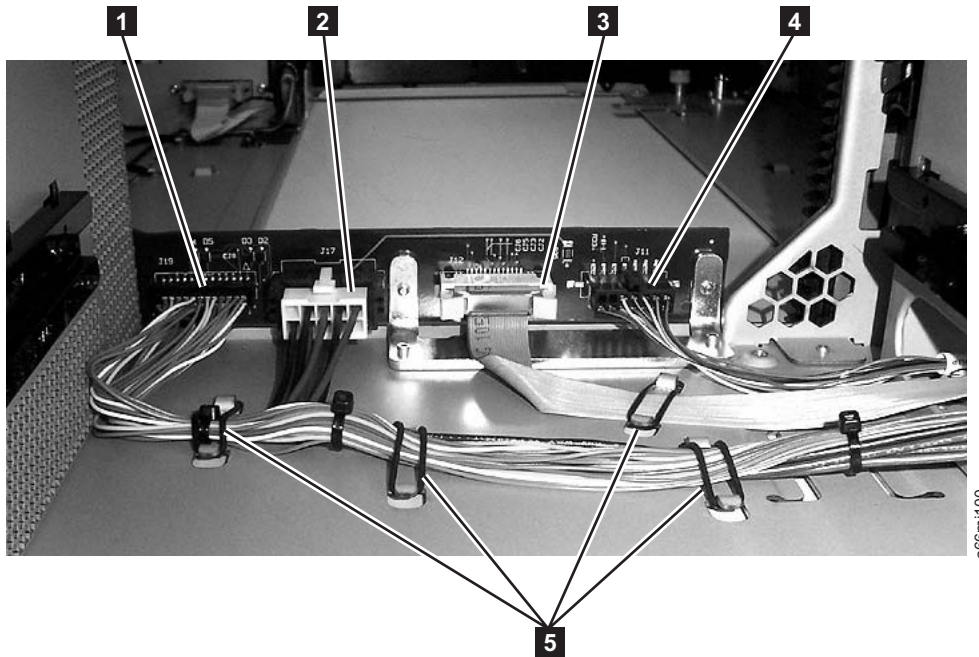
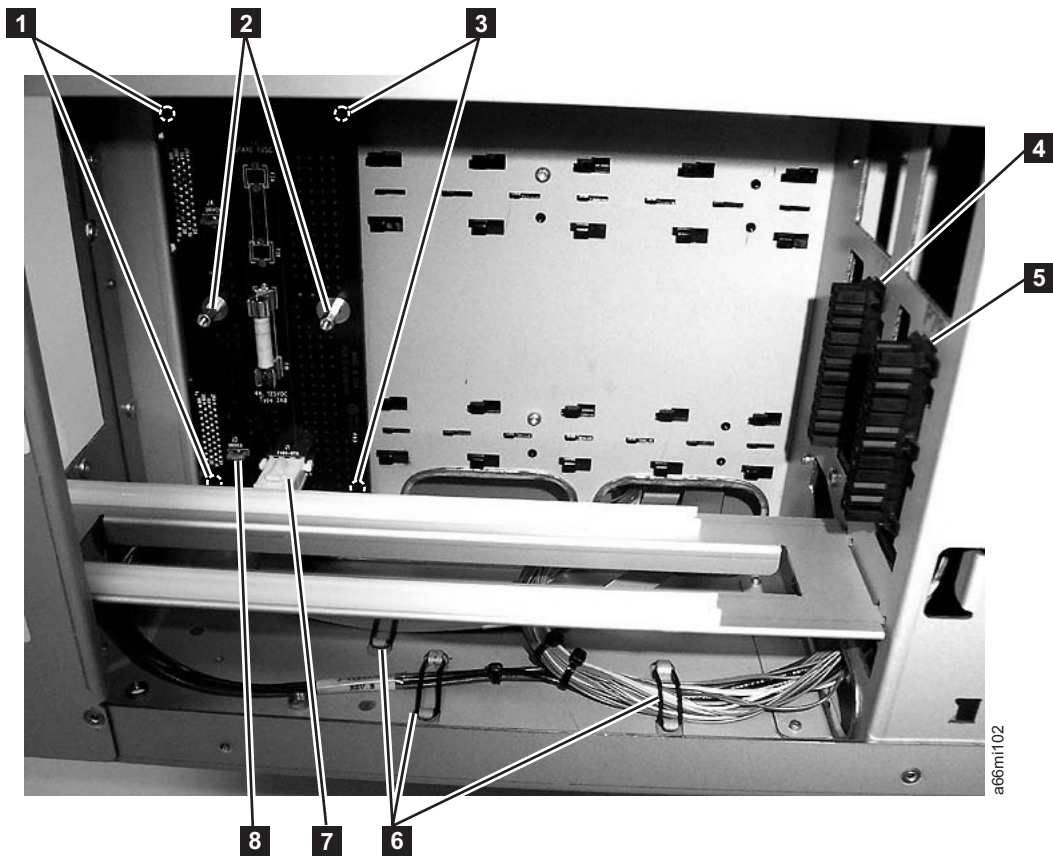

Figure 8-66. Backplane Connector Board (BCB), Rear View
Figure 8-67. Drive Sled Interface Board (DSIB), Side Cover Removed
- c. Remove the cable retainers (**5** in Figure 8-66 on page 8-69 and **6** in Figure 8-67 on page 8-69).
- d. Remove cable connectors J77 (**4** in Figure 8-67 on page 8-69) and J79 (**5** in Figure 8-67 on page 8-69). Pinch the lower part of the connector, press towards the front and slide down to remove the connector from the frame.
- e. Unplug the 2 connectors P17 and P19 from the BCB (see **2** and **1** in Figure 8-66 on page 8-69).
- f. Remove the 2 screws (**2** in Figure 8-67 on page 8-69) and remove the protective cover over the DSIB.
- g. Unplug the 1 power connector P1 (**7** in Figure 8-67 on page 8-69) from the DSIB.
- 1) Unplug connector P2 (**8** in Figure 8-67 on page 8-69) from the DSIB.
- 2) Unplug connector P12 (**3** in Figure 8-66 on page 8-69) from the BCB.
- a. Remove the 2 hex stand-offs (**2** in Figure 8-67 on page 8-69) from the DSIB. This requires a 4.5 mm (3/16-inch) wrench.
- b. The DSIB is held to the frame by slotted pins (**1** and **3** in Figure 8-67 on page 8-69) in all 4 corners of the board.
- 1) Using a flat blade screwdriver, carefully pry the 2 front corners of the board (**3** in Figure 8-67 on page 8-69) from the mounting pins.
- 2) Put finger pressure on the drive connectors on the back of the DSIB one at a time, while you move the board back and forth to pull it from the corner mounting pins (**1** in Figure 8-67 on page 8-69).